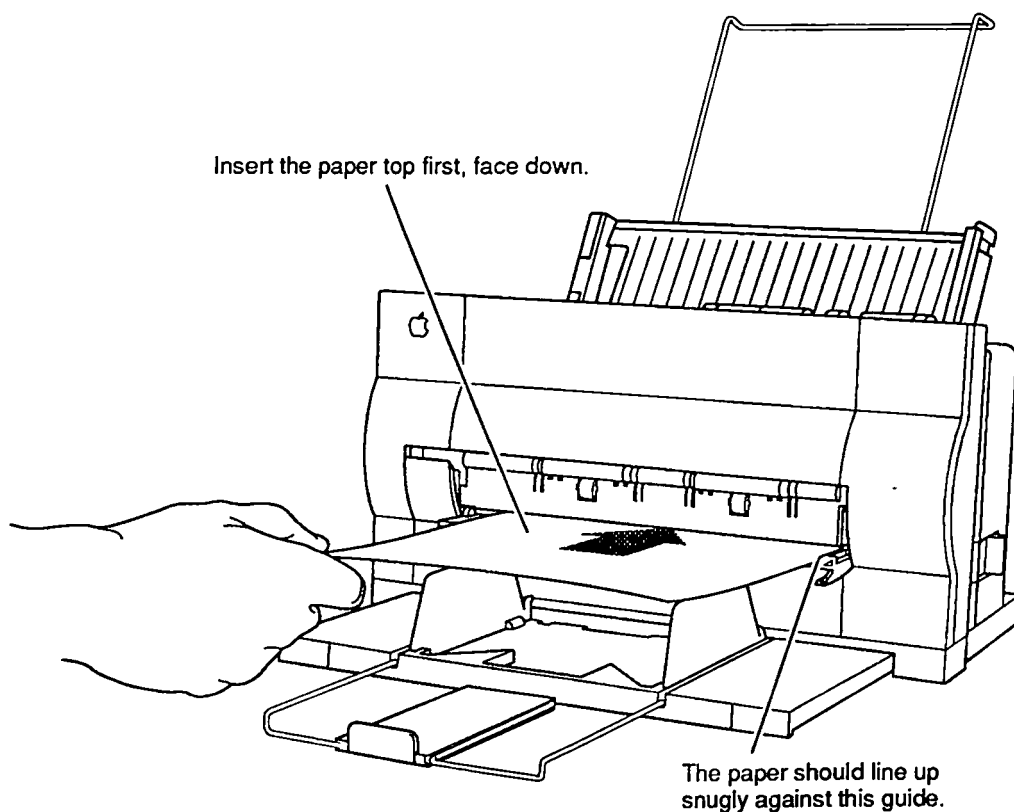

Figure 1-10 Manual Feed (Front Slot)
5. Insert the sheet of paper as far as it will go into the front slot of the printer. (**Figure 1-10**).